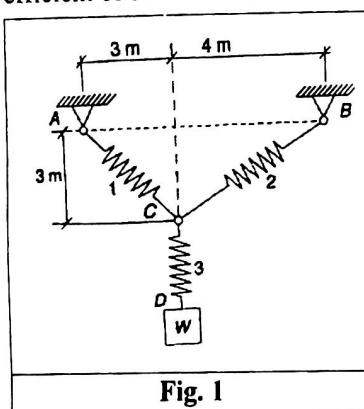

Fig. 1
1. (a) Define Lami's theorem. (b) Determine the stretch in each spring for the equilibrium of the weight  $W=50$  N block as shown in Fig. 1. The springs are in an equilibrium position. The stiffness of each spring is as given as:  $k_1=30$  N/m,  $k_2=40$  N/m, and  $k_3=50$  N/m. (c) Find out the relation of the coefficient of static friction ( $\mu_s$ ) and the maximum angle of inclination ( $\theta_{\max}$ ) of the plane with the horizontal where a blocks of mass  $m$  are placed on the inclined plane and begin to slip. CO1/2 BL2/3/2 3+5+4